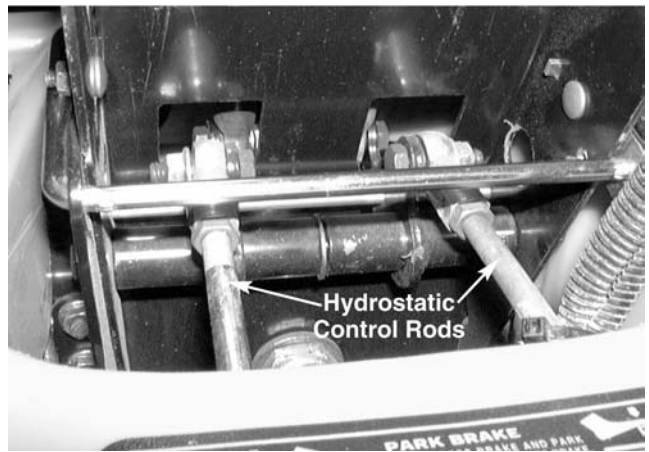

Figure 10-17.
27. Locate the hydrostatic control rods that run from the lower bellcrank assemblies to the hydrostatics. See Figure 10-17.
33. Tighten all four hex jam nuts that maintain all the alignaball positions on the hydrostatic control rods using a 9/16 wrench. See Figures 10-17 and 10-18.